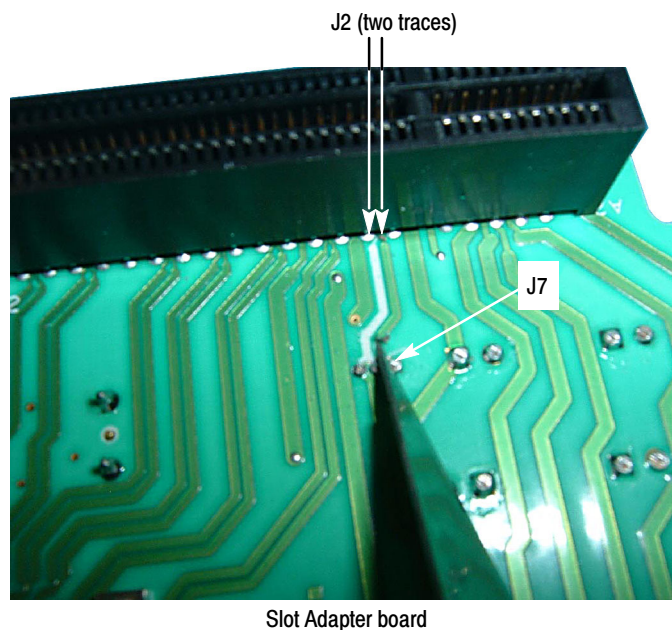

Figure 2: Removing the two traces (side B)
3. Using an Exacto knife, separate the traces from pin 3 of the J7 connector on the Slot Adapter board by lifting the traces and peeling them towards the J2 slot connector. See Figure 2.